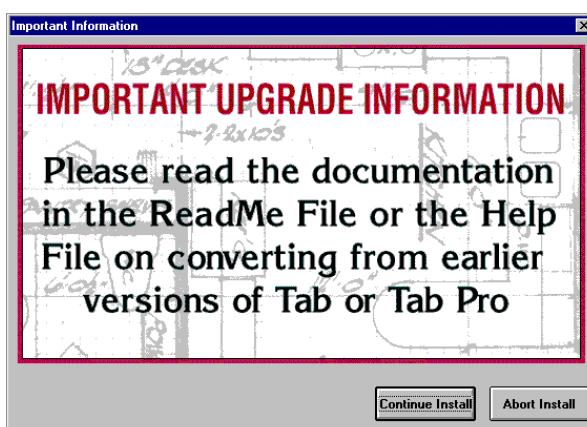

FIGURE 33. TabPro Important Information Dialog
- 8.66 Click the 'Continue Install' button on the 'Important Information' dialog. See Figure 33.